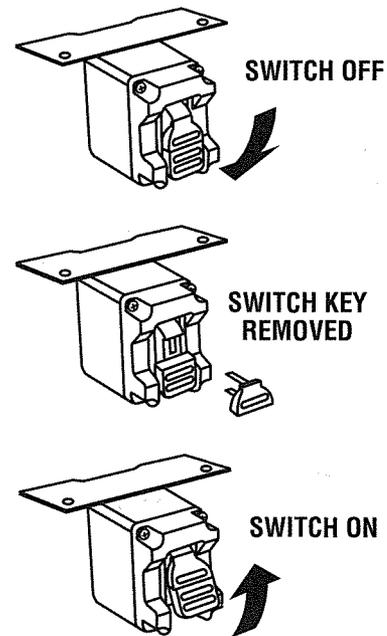

Fig. 59
- NOTE:** To prevent unauthorized use, remove the switch key as shown in figure 59.